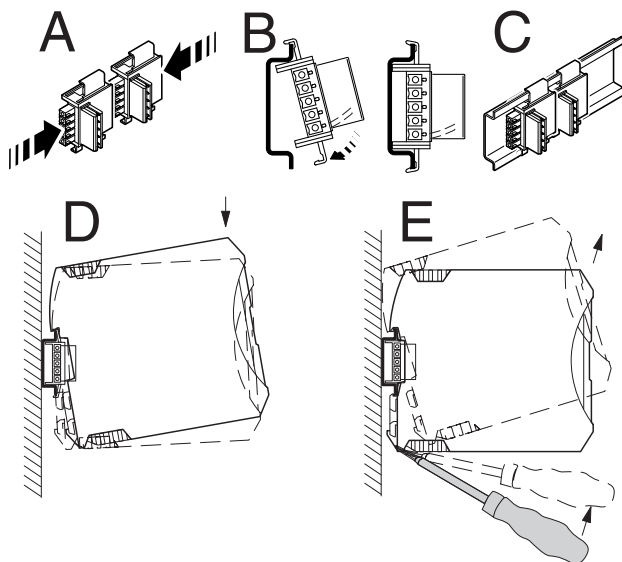

Bild 5 Mounting and removing
- When using the DIN rail connector, first insert it in the 35 mm DIN rail according to EN 60715 (see Figure 5, A - C). The DIN rail connector is used to bridge the power supply and communication.